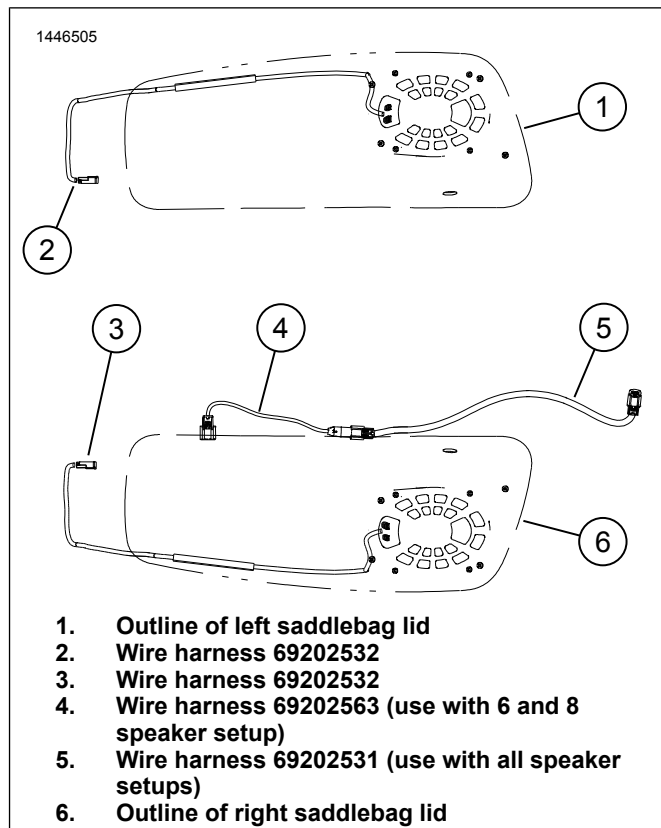

Figure 6. Wire Harness Setup and Routing
- a. Figure 6 Locate wire harness 69202532 (2).
- a. Figure 6 Locate wire harness 69202532 (3).
- a. Route wire harness (3) as shown.
5. Figure 6 Locate wire harnesses 69202563 (4) and 69202531 (5).